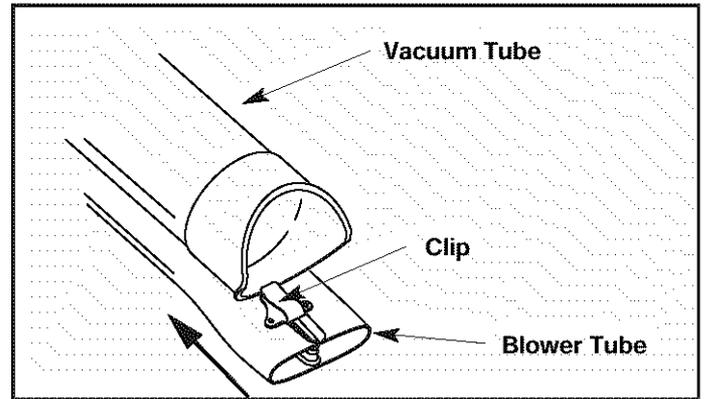

Fig. 3
2. Clip the blower tube to the end of the vacuum tube. (Fig. 3)